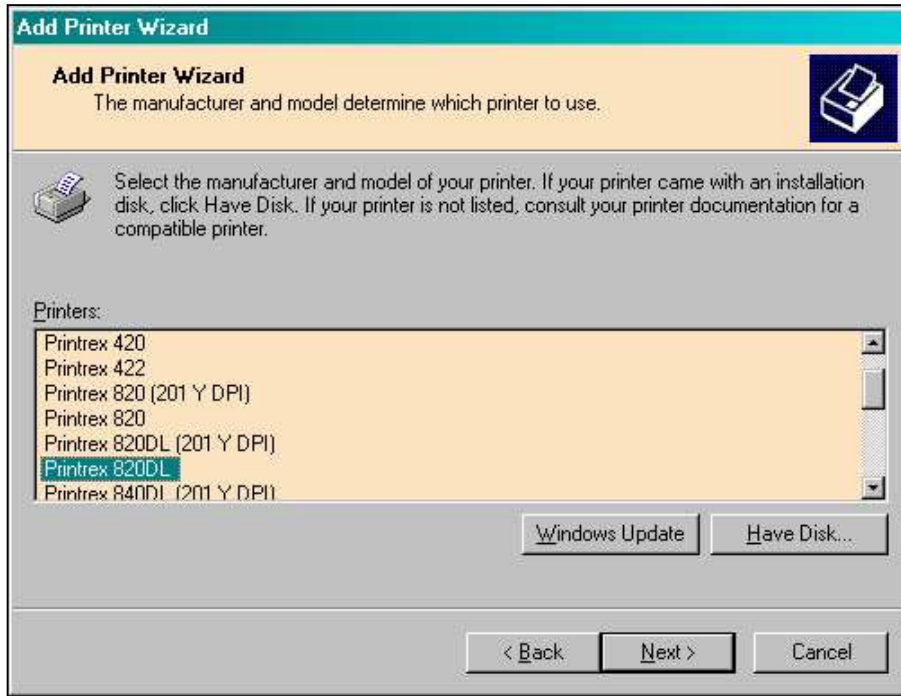

Figure 8
9. Select the desired printer model from the list shown in Figure 8, and click **Next**.
For most Printrex products, the driver disk supplies a single driver for a printer model, and that is what you should select in Figure 8 (Step 10) of the installation procedure.